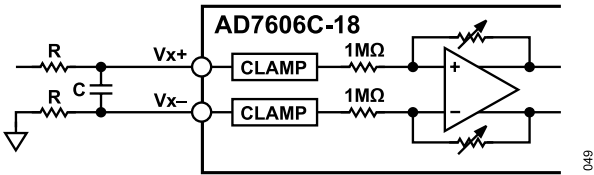

Figure 77. Input Resistance Matching on the Analog Input of the AD7606C-18 for Single-Ended Ranges (V_{x-} Tied to Ground)
It is recommended to place a series resistor on the analog input channels to limit the current to ± 10 mA for input voltages greater than ± 21 V. In an application where there is a series resistance (R) on an analog input channel, V_{x+} , it is recommended to match the resistance (R) with the resistance on V_{x-} to eliminate any offset introduced to the system, as shown in Figure 77. However, in software mode, a per channel system offset calibration removes the offset of the full system (see the System Offset Calibration section).